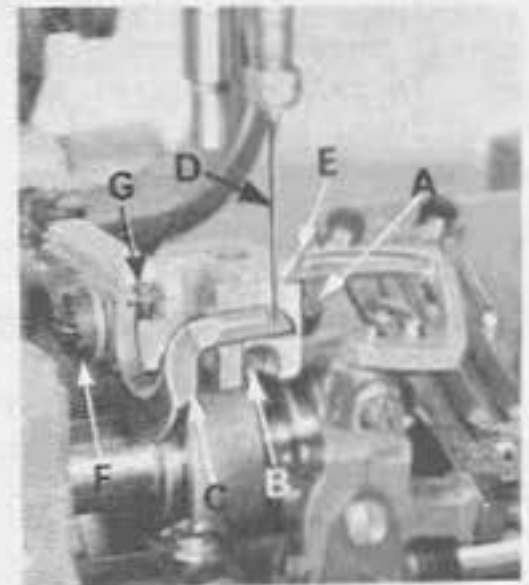

Fig. 9
If feed dog teeth are not parallel with the throat plate, loosen nut (A, Fig. 9) and turn screw (B) clockwise to lower the front teeth, and counter-clockwise to raise the front teeth. Retighten nut when feed dog is set properly.
Set the rear needle guard (C, Fig. 9) horizontally so that it does not quite contact the rear of the needle (D) when at its most forward point of travel. A clearance of .005 inch (.127mm) is permissible. It should be set as low as possible, yet have its vertical face approach within about 3/64 inch (1.19mm) of the needle, until the point of the looper